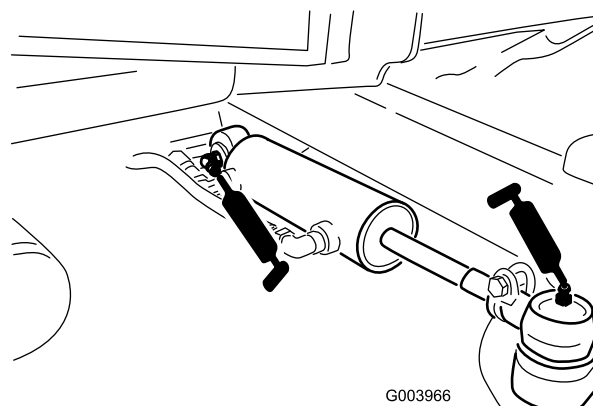

Figure 44
- Steering cylinder ball joints (2) (Figure 44)